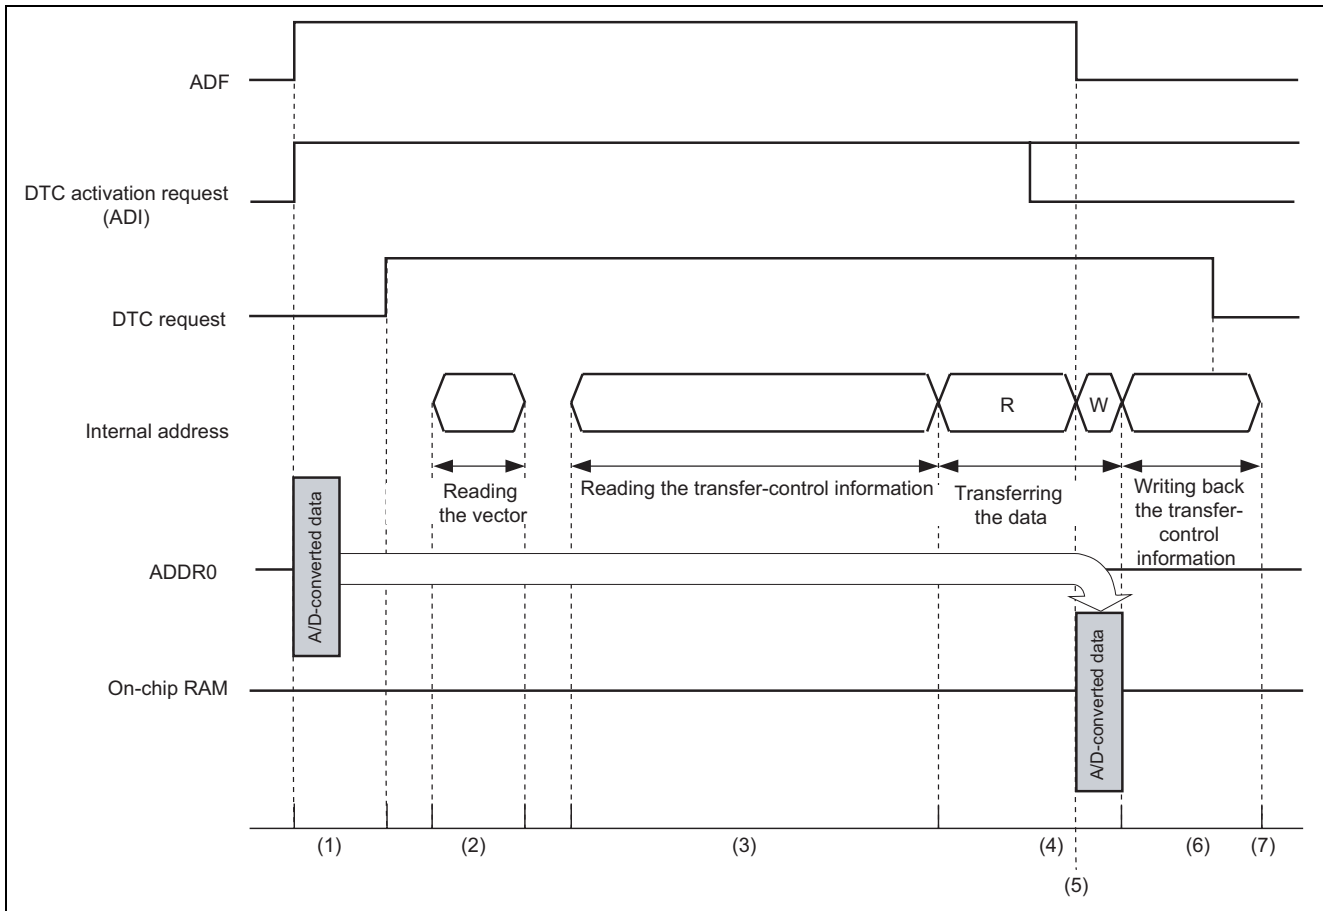
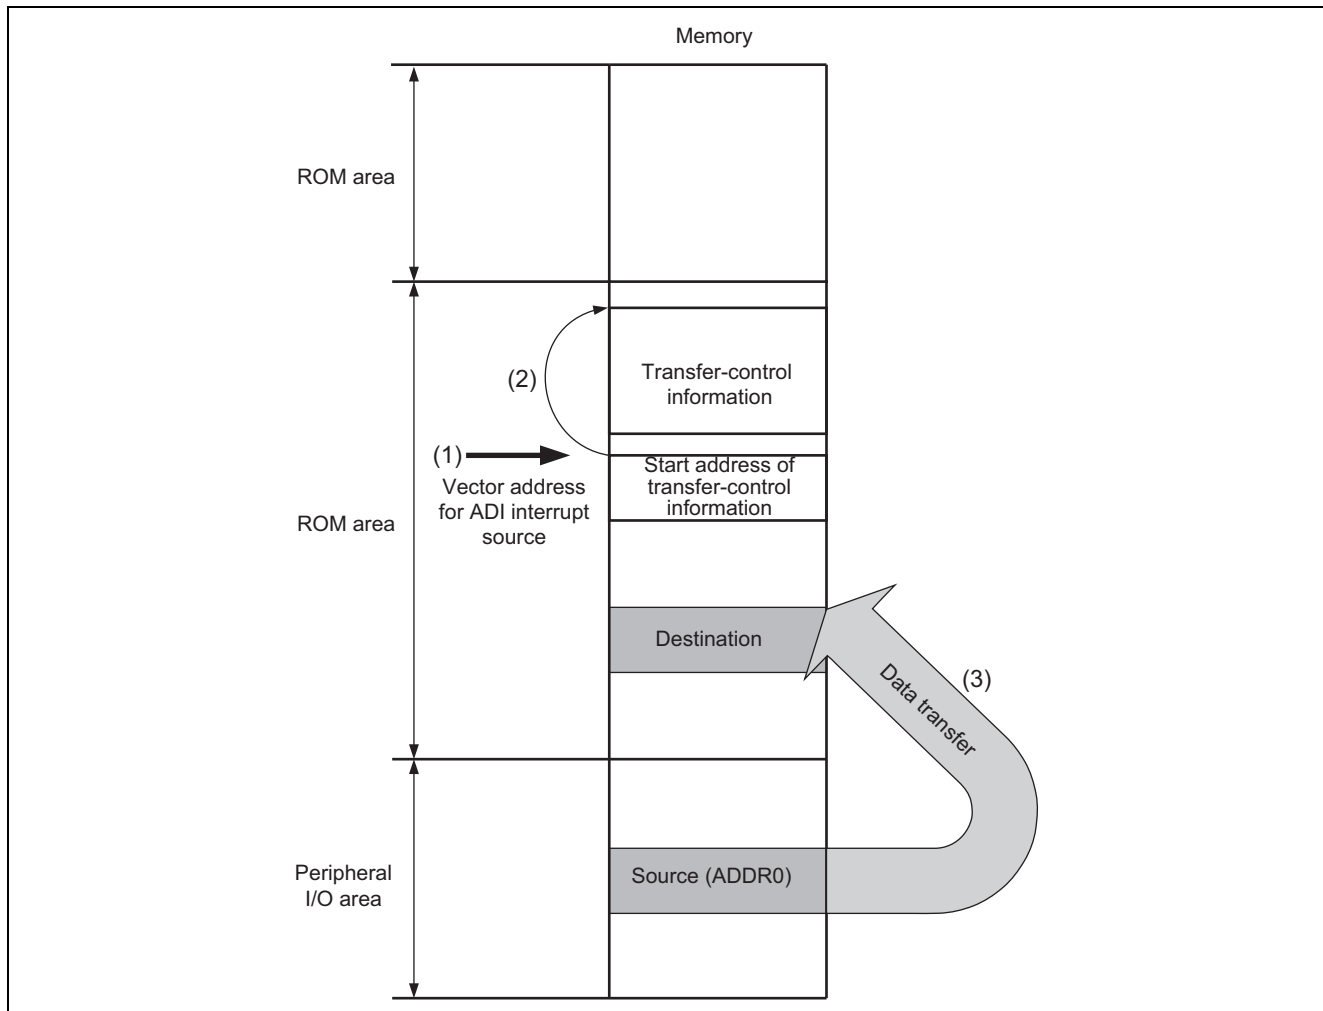

Figure 5 Detailed Timing Chart of DTC Transfer
Figure 6 Flow of Data in Memory
A more detailed timing diagram of one DTC transfer operations is given as figure 5.
In DTC transfer, DTC activation sources (in this case, ADI interrupt request) generate DTC requests. Mastership of the internal bus is secured and the DTC is activated (figure 5 (1)). The address where the control information for the transfer starts is read from the vector table of ADI activation sources (figure 5 (2)) that has been set up for this example. The information is then read, starting at the given address (figure 5 (3)). After that, the data is transferred from the source address (ADDR0) to the destination address (in the on-chip RAM) (figure 5 (4)). The ADF bit is automatically cleared in response to reading of the ADDR (figure 5 (5)).
Finally, the destination address for the transfer is incremented, and the control information for the transfer is written back (figure 5 (6)). The DTC releases the bus after the writeback operation (figure 5 (7)).
The flow of data in memory for the operations shown in zones (2), (3) and (4) of figure 5 is illustrated in figure 6 and described in table 4.
Table 4 Description of Figure 6